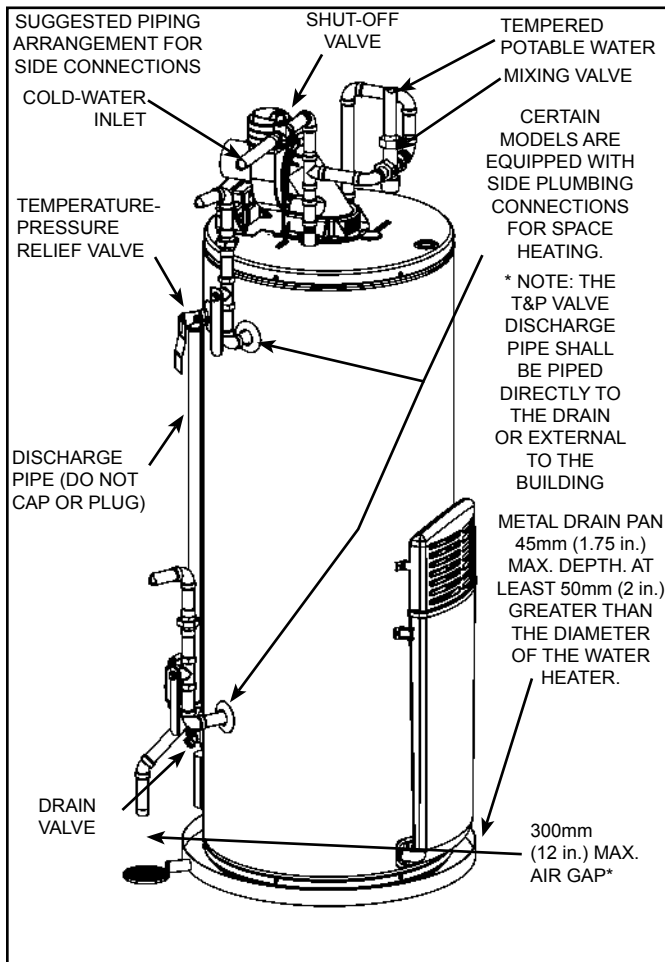
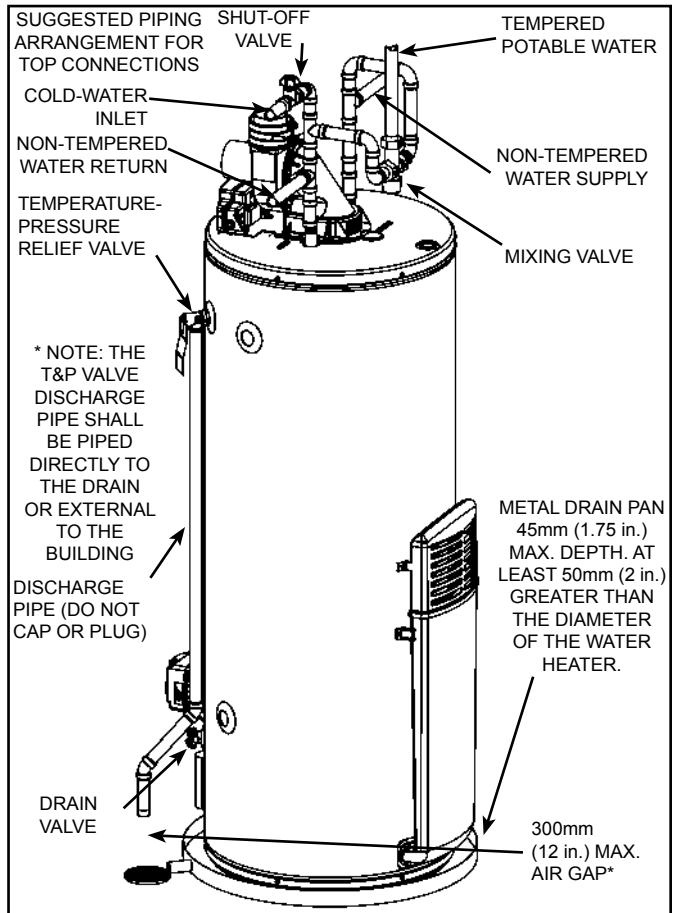

Figure 8
Figure 9
Models equipped with Combo Heating capabilities are shipped with the two side plumbing taps **PLUGGED** (item 8 and item 13 in Figure 1 and see also Figure 8 & Figure 22). If the heater is to be operated using the side taps for combo heating, these taps **must be opened** by removing the two pipe plugs.
In addition to using lowest possible temperature setting that satisfies demand of application, a mixing valve should be installed at water heater (see Figure 8 & Figure 9) or at hot-water taps to further reduce system water temperature. Mixing valves are available at plumbing supply stores. Consult a Qualified Installer or Service Agency. Follow mixing valve manufacturer’s instructions for installation of the valves. Before changing the factory setting on the thermostat, read the “Operating The Temperature Control System” section in this manual.